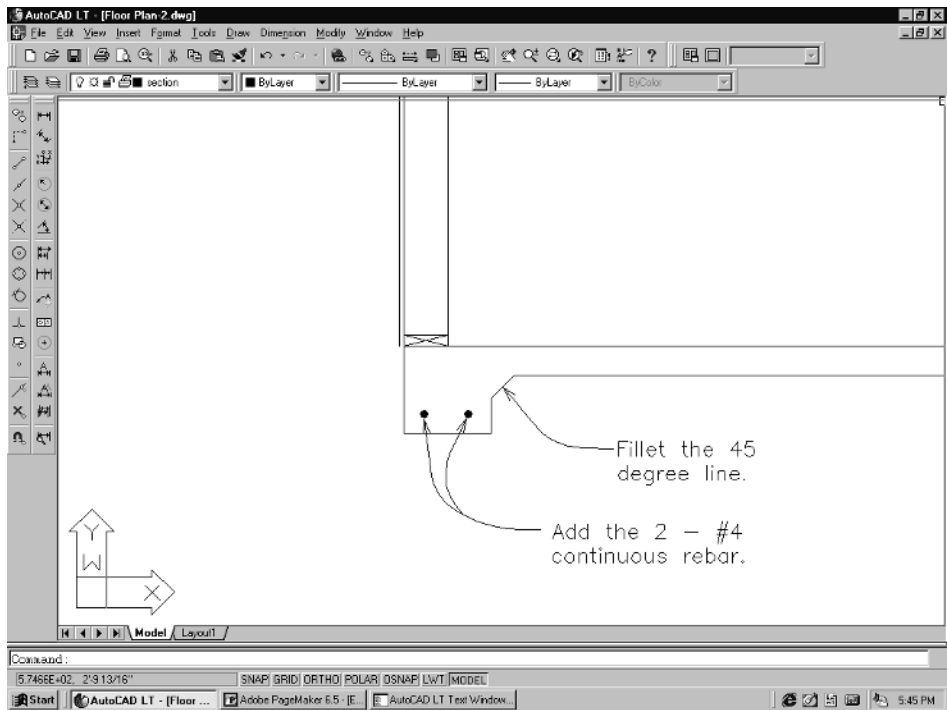

Figure 3-74
5. At the command line prompt *_xline Specify a point or [Hor/Ver/Ang/Bisect/Offset]*, type **A** and **Enter**. At the *Enter angle of xline (0) or [Reference]* prompt, type **45** and **Enter**. Finally, at the *Specify through point* prompt, type **45** and **Enter**.
7. At the command line prompt *Specify inside diameter of donut <0'-0">*, type **0** and **Enter**. When prompted to *Specify outside diameter of donut <0'-1">*, type **1** and **Enter**. If this looks too small after you have placed the first one, type **U** to back up, then change the outside diameter to a larger size. At the *Specify center of donut or <exit>* prompt, pick the points for the two rebar as shown in Figure 3-74.